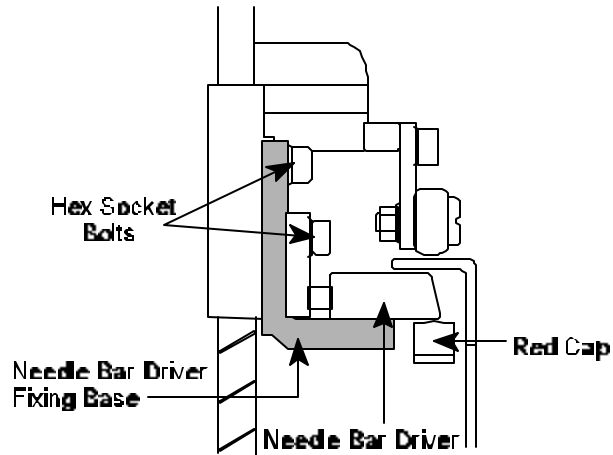

Figure 12
43. Using 3 mm Allen Wrench, **loosen** top and bottom hex socket bolts on Needle Bar Driver Fixing Base. See Figure 12.